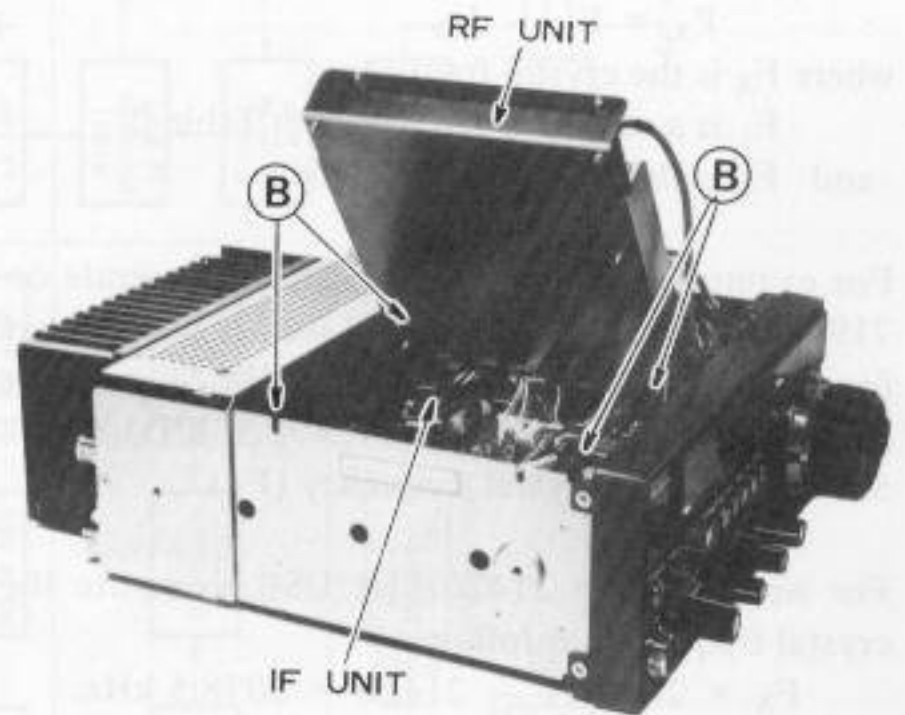

Fig. 3
- (3) Refer to Figure 3, and remove the four screws marked "B" restraining the IF Unit. Remove the three connectors of the IF Unit, and remove the board from the transceiver.